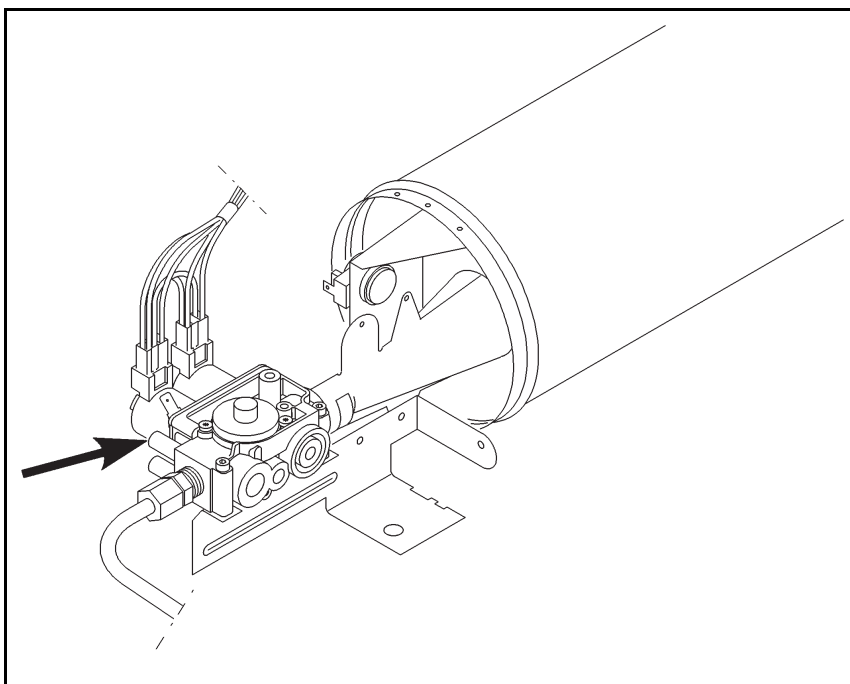

Fig. 6: Port for measuring jet pressure
- ↯ Check that no gas flows out, measure gas tapping pressure, refer to 031 Fig. 6.
- ↯ Check if now the gas solenoid valve (Y57/2) receives voltage via the low ohmic ignitor electrode (E1/1) and the gas solenoid valve (Y57/2) opens. Jet pressure, refer to 031 Fig. 6.